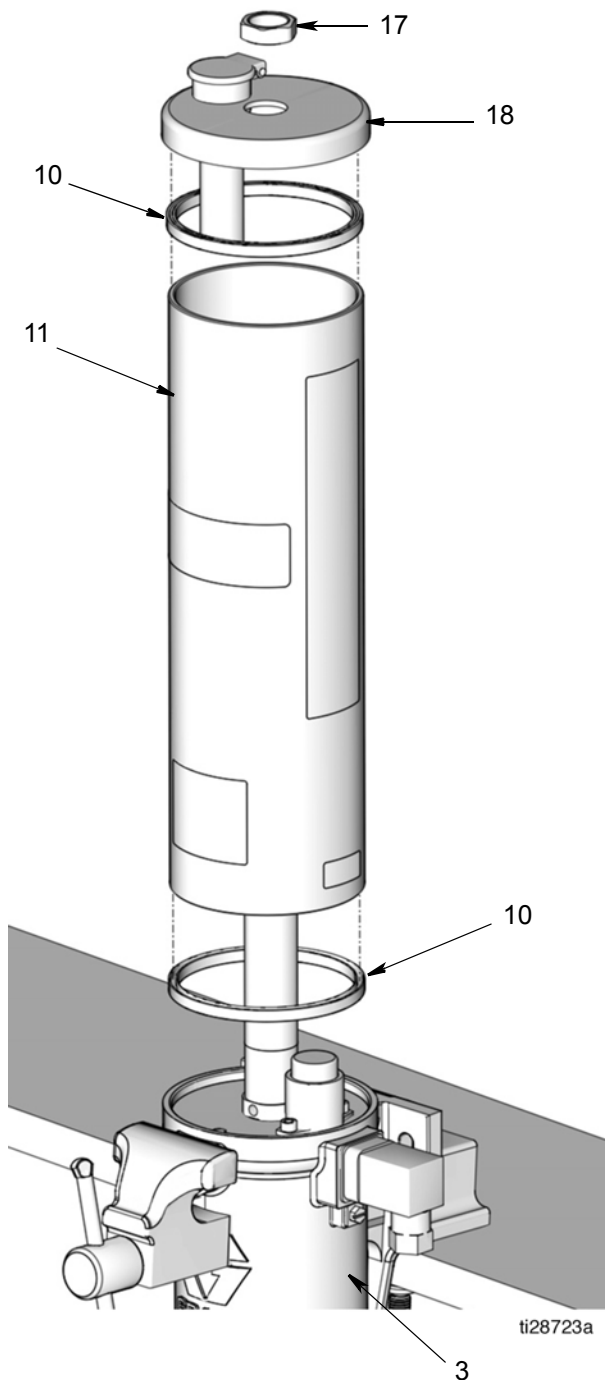

FIG. 15
10. Remove cover (18) from reservoir (11).
11. Remove reservoir (11) from the air motor cylinder (3) (FIG. 15). If replacing reservoir gaskets (10), remove gaskets from reservoir. Dispose of gaskets according to all regulations for proper disposal.